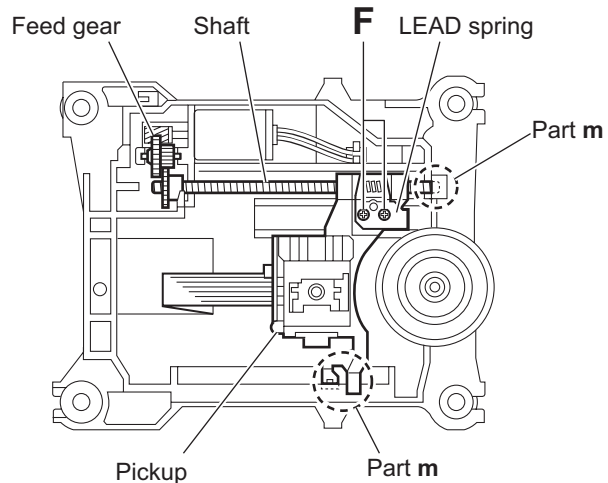

Fig.8
- (3) Remove the two screws **F** attaching the LEAD spring and then take out the LEAD spring. (See Fig.8)
- (4) Take out the feed gear, and then remove the shaft of pickup from part **m** of the traverse mechanism assembly. (See Fig.8)
- (5) Remove the pickup from part **n** of the traverse mechanism assembly and then take out pickup with shaft. (See Fig.8)
- (6) Release the shaft from pickup. (See Fig.8)
- (2) Attach the shaft to pickup. (See Fig.8)
- (3) Fit the pickup to part **n** of the traverse mechanism and then attach the end of the shaft to part **k**. (See Fig.8)
- (4) Attach the LEAD spring and feed gear. (See Fig.8)